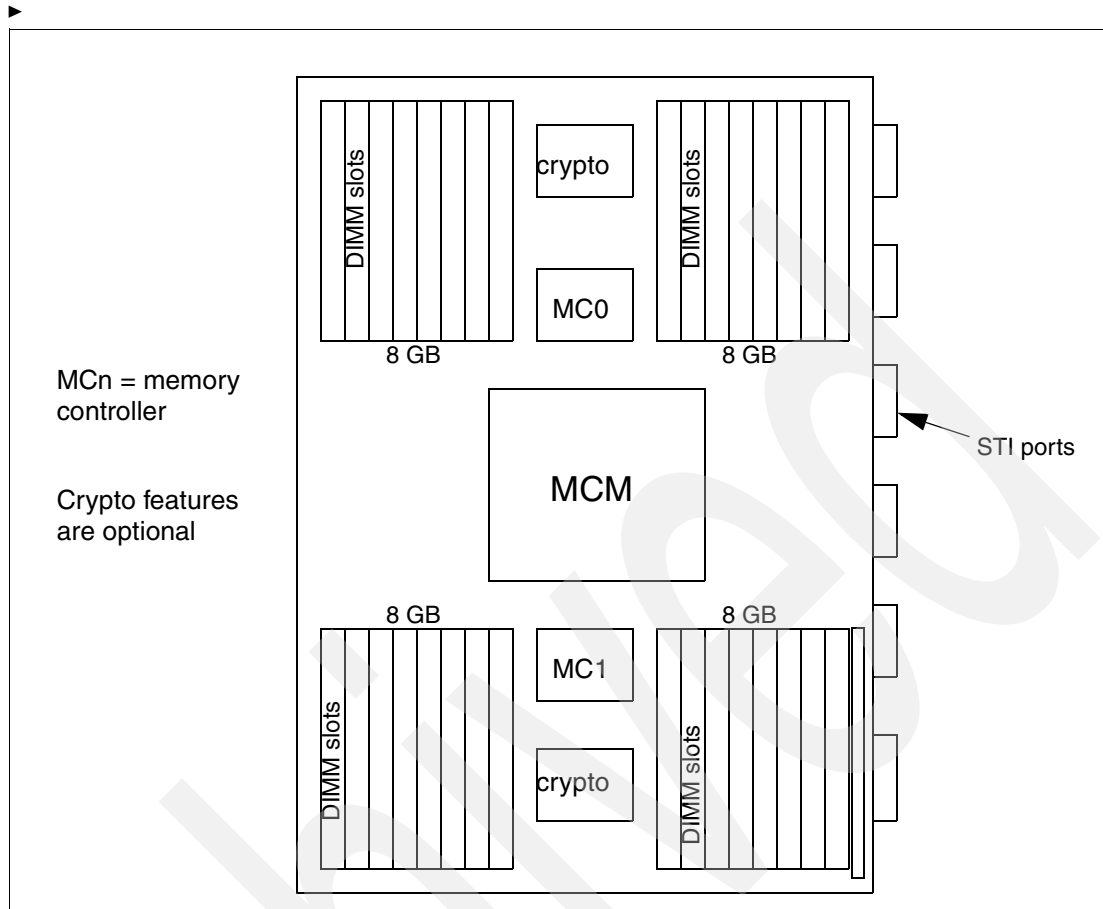

Figure 2-3 BPU-PK module
The MCM is mounted on a backplane assembly that also contains memory DIMMs, optional CMOS cryptographic coprocessors, and additional memory control logic. This is shown in the sketch in Figure 2-3 on page 14. This assembly is the BPU-PK, and is a field-replaceable unit. In addition to memory, the PBU-PK contains connectors for the six STI interfaces.
Memory is added in increments of 8 GB, with a maximum of three increments. An 8GB increment (feature code 1208) consists of two DIMM cards added to each of the four DIMM banks shown in Figure 2-3. A DIMM bank is completely filled only if 32 GB memory is installed. One DIMM bank has an extra slot; this is for a DIMM used solely for storage keys. This DIMM is always present and has enough memory to hold storage keys for 32 GB. This DIMM actually has three copies of every storage key3 and a voting process to resolve errors.